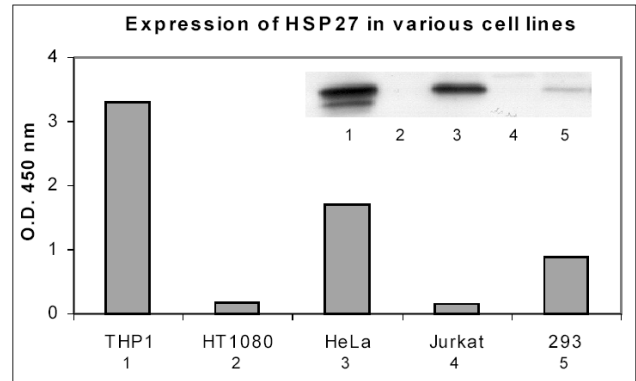

Figure 3 Expression of HSP27 in various cell lines
- The data presented in Figure 3 show that the kit detects HSP27 protein in cell lysates from human HTP1, HeLa and 293 cells. It detects low levels in human HT1080 and Jurkat cells.